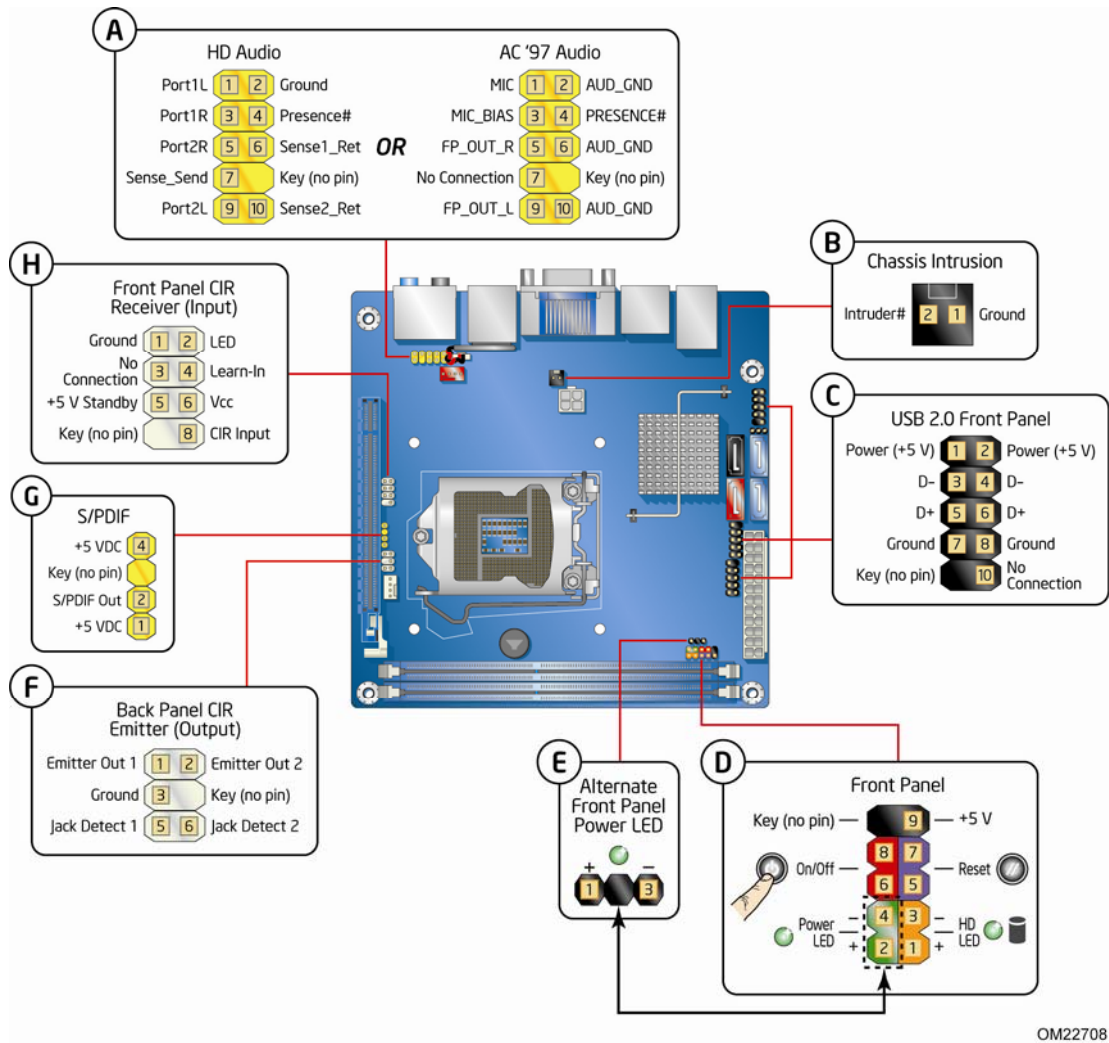

Figure 18. Internal Headers
Before connecting cables to any of the internal headers, observe the precautions in “Before You Begin” on page 27. Figure 18 shows the location of the internal headers and connectors on Intel Desktop Board DH67CF.
The front panel audio header shown in Figure 18, A supports both Intel High Definition (HD) Audio and AC '97 Audio.